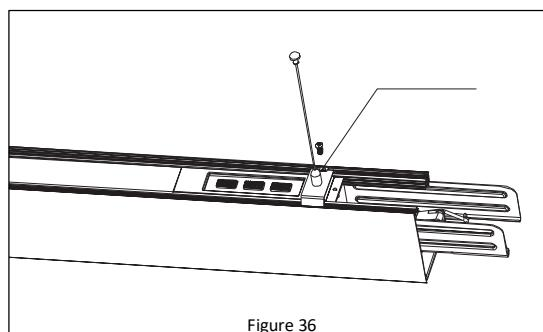

Figure 36
6. Install the lifting bracket in the fixture to a suitable position for suspending and linking. *See Figure 36.*